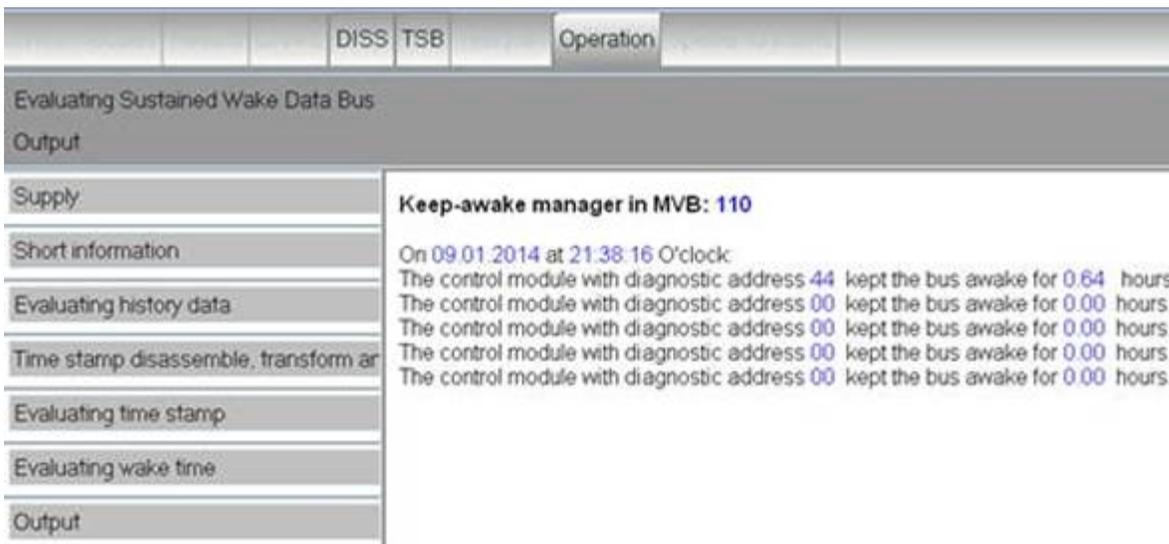

Figure 9. BDM Keep-Awake Manager.
11. The Keep-Awake Manager will display the keep-awake events (Figure 9). The most recent event will be displayed at the top of the list. If no data exists, then no data is shown.
The example below (Figure 9) shows that on January 9, 2014 (09.01.2014) at 9:38:16 PM (21:38:16), the control module with diagnostic address 44 kept the CAN bus awake for 0.64 hours. If the date and time listed match (within 24 hours) the date and time in the critical energy reading, then the first control module listed is most likely the cause of the complaint.